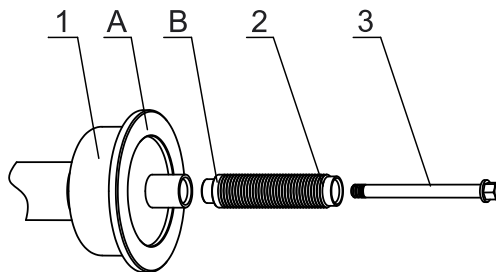

Figure 4.2 – Shaft assembling
4.2.3 Assemble shaft in accordance with Figure 4.2. Clean the machine spindle hole and shaft from preserving grease by rag moistened in petrol or white spirit. In accordance with Figure 4.2 set shaft 2 on machine spindle 1 fastening it by bolt 3 with torque 40 N·m, using adapter six-sided if necessary. During removal of the shaft it's allowed to tip slightly on the surface «B» (on horizontal surface) by a rubber or wooden hammer. Do not apply force along the spindle axis (for example, during transportation, during wheel mounting and dismounting)!